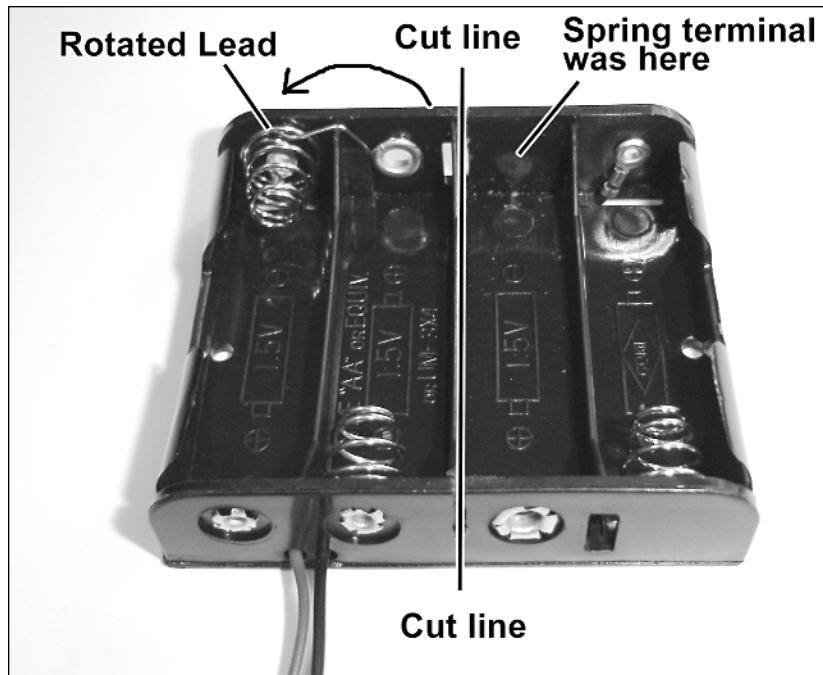

FIGURE 16-6: Modifying the battery holder.
3. Figure 16-6 shows a four-AA battery holder with the two wires positioned on the lower left. Snip the bit of black plastic so that the springy negative terminal on the top right can be rotated around to the left. Cut off most of the spring to leave only a small hook. You can then hook this into the springy terminal on the left, and solder it in place.
4. Saw the battery holder in half, as indicated in Figure 16-6. The saw line should be just on the right of the middle wall. We'll be keeping the left side of this holder, and therefore we need that wall intact. You will find a black wire on the underside of the holder. Go ahead and snip/saw through it. (Step 1 above obviated the need for this wire.)